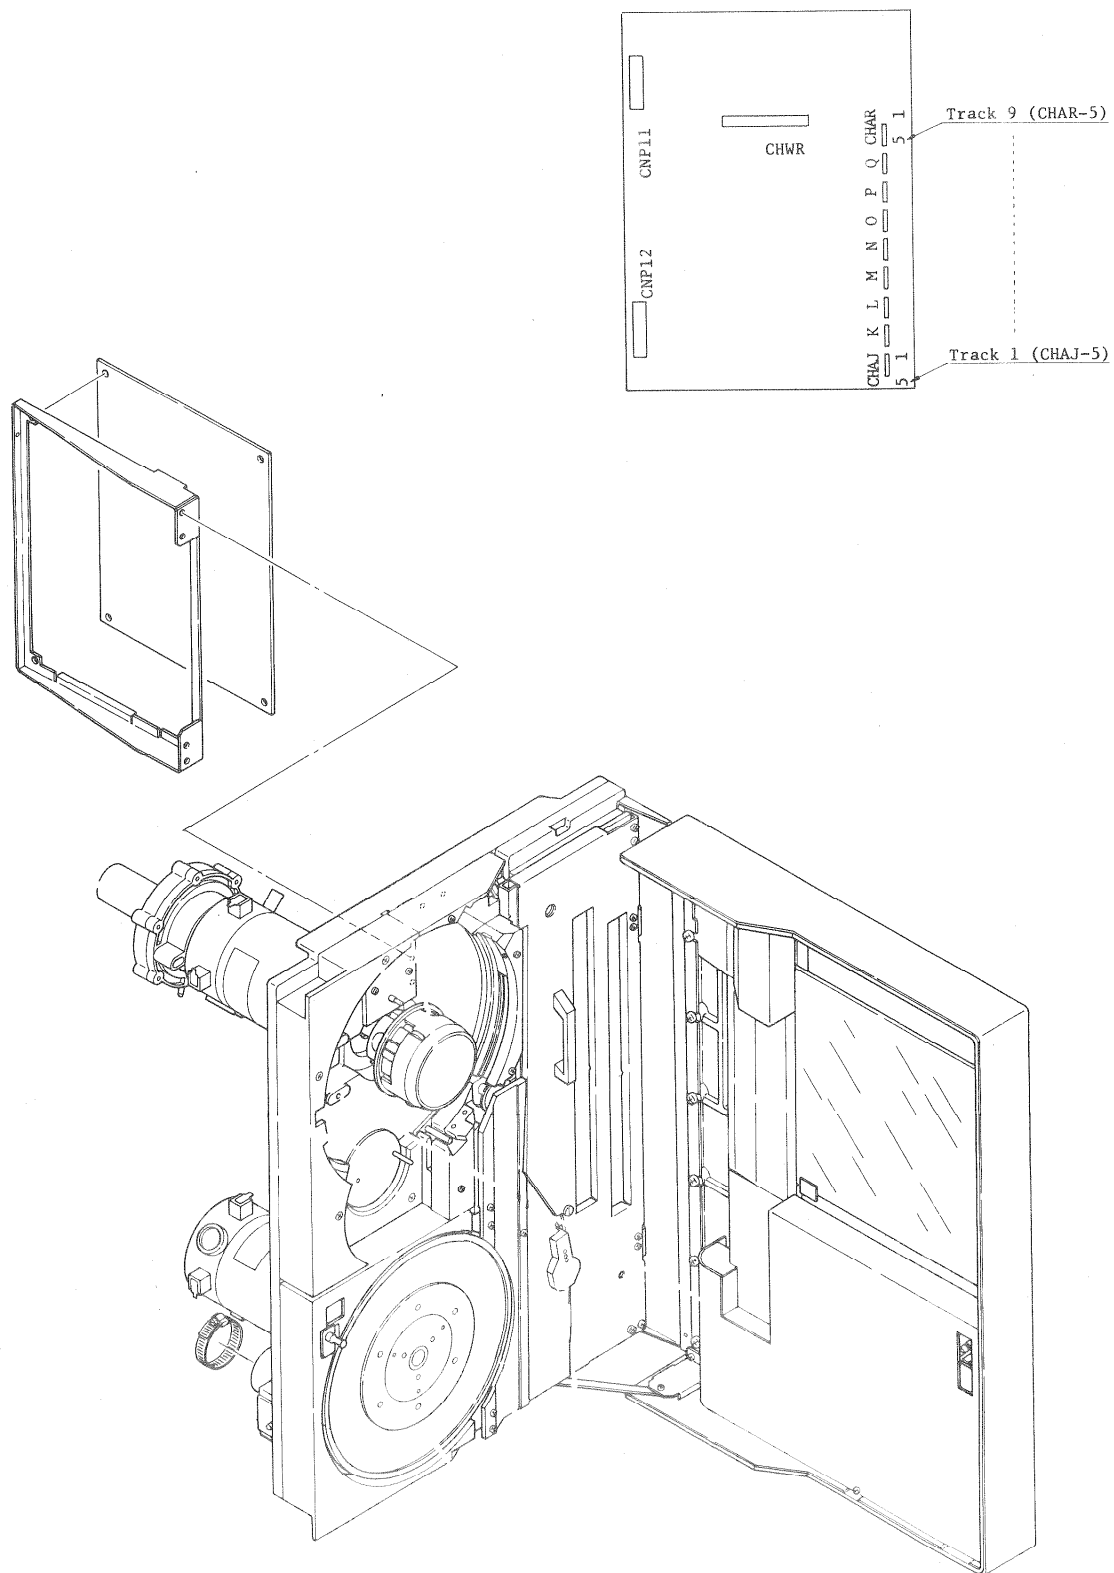
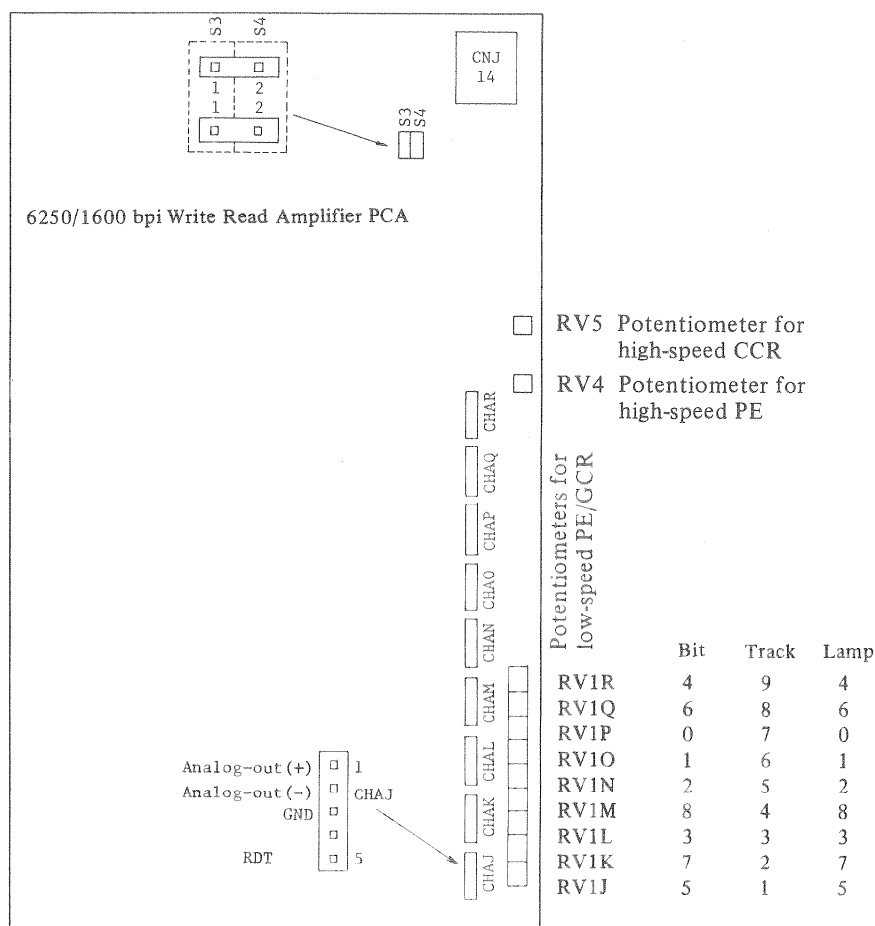

Figure 5.7 Read/Write amplifier PCA
Figure 5.9 Potentiometers and check terminals for lamps 0 through 8 on write/read amplifier PCA
- (1) Press the UNLOAD/REWIND button on the MTU front panel and remove the tape from the reel.
- (2) Install master skew tape (P/N BM.BvMt 351d) and press LOAD/REWIND on the MTU control panel.
- (3) Connect a dual-trace oscilloscope to the Write/Read amplifier PCA, tracks 1 and 9, as shown in Figure 5.7. The designations on the write/read amplifier PCA for tracks 1 through 9 are shown in Figure 5.8. Five pins are associated with each track on the PCA. Connect the oscilloscope to pin #5 as shown in Figure 5.9.
- (4) Set the field tester ONL/OFL switch to OFL. Set the field tester switches S0 through S7 to \$E2 for 6250/1600 bpi;
- (5) Adjust the corresponding potentiometers (RV1R through RV1J) in Figure 5.9, if necessary, to obtain semi-luminous status for lamps 0 through 8. Toggle the SSS switch to stop the tape.
- (8) Adjust the corresponding potentiometers shown in Figure 5.9, if necessary. Toggle the SSS switch to stop the tape.
- (9) Set the field tester switches S0 through S7 to \$FB, and toggle the SSS switch to set the slice level to 110%.
- (11) Adjust the corresponding potentiometers shown in Figure 5.9, if necessary. Toggle the SSS switch to stop the tape.
- (5) Adjust potentiometer RV4 shown in Figure 5.9 so that four or more of lamps 0 through 8 are lit. After adjustment, toggle the SSS switch to stop the tape.
- (6) Set the field tester switches S0 through S7 to \$F5, and toggle the SSS switch to set the slice level to 80%.